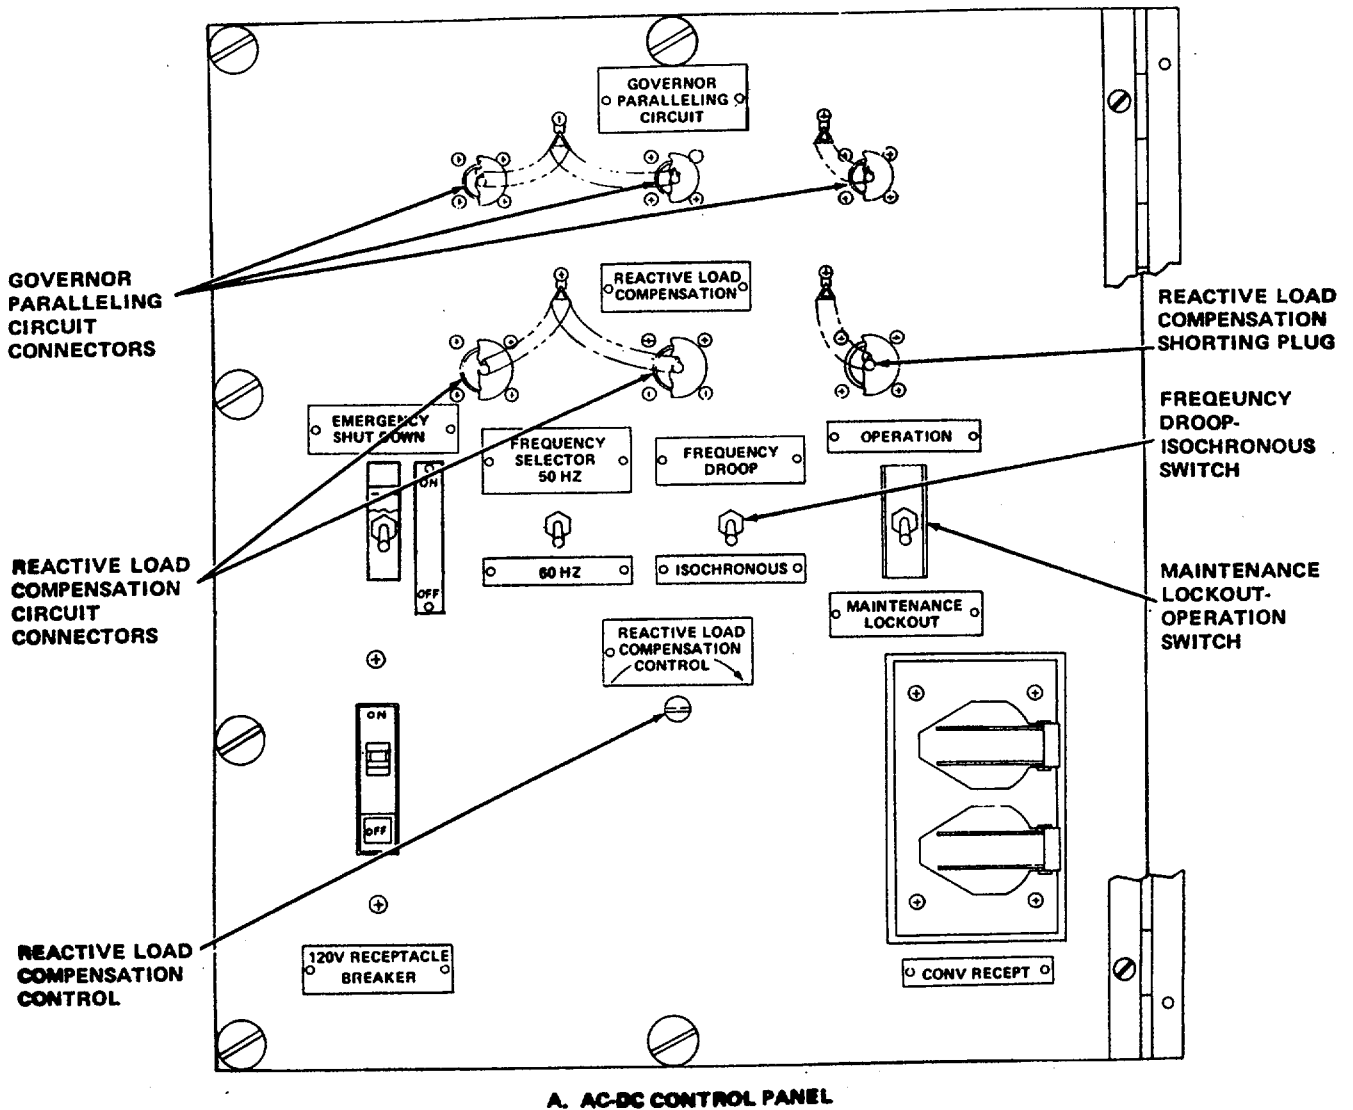

Figure 2-21. Operating Instructions, Manually Operated in Parallel (Sheet 1 of 3)
provided in figure 2-21 for droop paralleling and isochronous paralleling (paralleling cables required).
- b. Automatic Operation in Parallel. Ref. paragraph 2-11b, ACM Operating Instructions. Figure 2-21. Operating Instructions, Manually Operated in Parallel (Sheet 1 of 3)